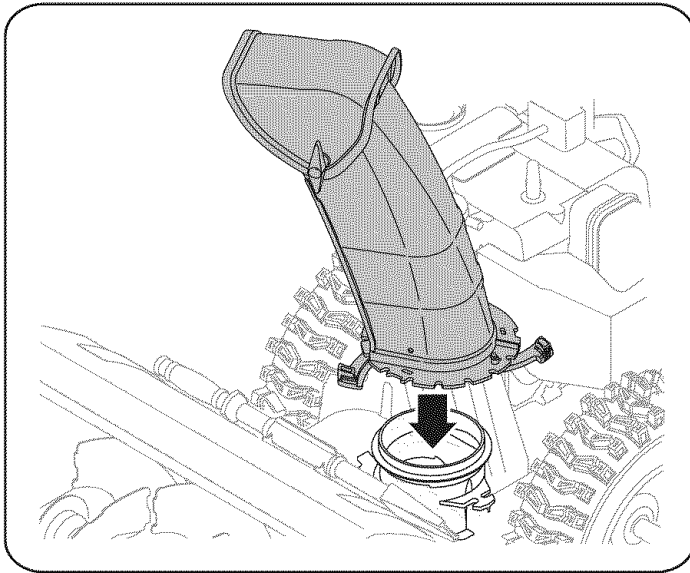

Figure 3
4. Position the chute assembly over the base. See Figure 3.